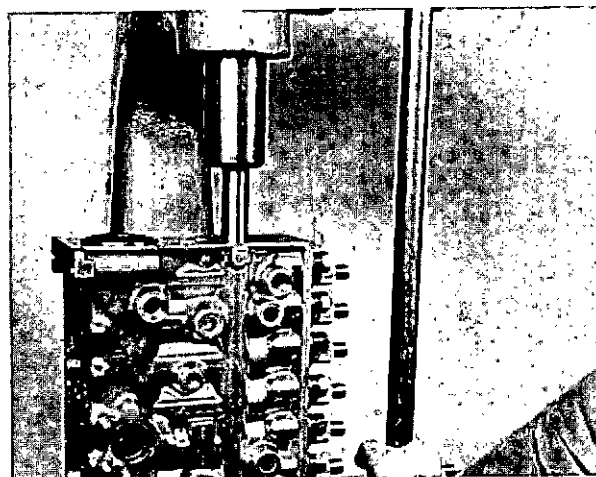

Fig. 32 Pressing in guide block.
9. Use a suitable tube to press the guide block fully home (fig. 32), taking care that it does not become tilted. Secure it by screwing in the threaded bush to a torque loading 30 to 39 Nm (22 to 29 lbf. ft.), using pin spanner 1 687 950 075.